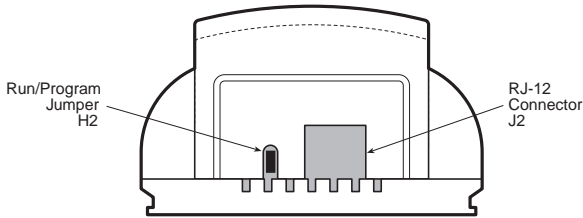

Figure 4-2. Location of Run/Program Jumper at H2
2. Locate the **Run/Program** jumper at **H2** that protrudes through the end of the case next to the RJ-12 connector (**J2**). Figure 4-2 shows the location of the **Run/Program** jumper at **H2**.
2. Reinstall the **Run/Program** jumper on header **H2**. Refer to Figure 4-2 for the jumper location.